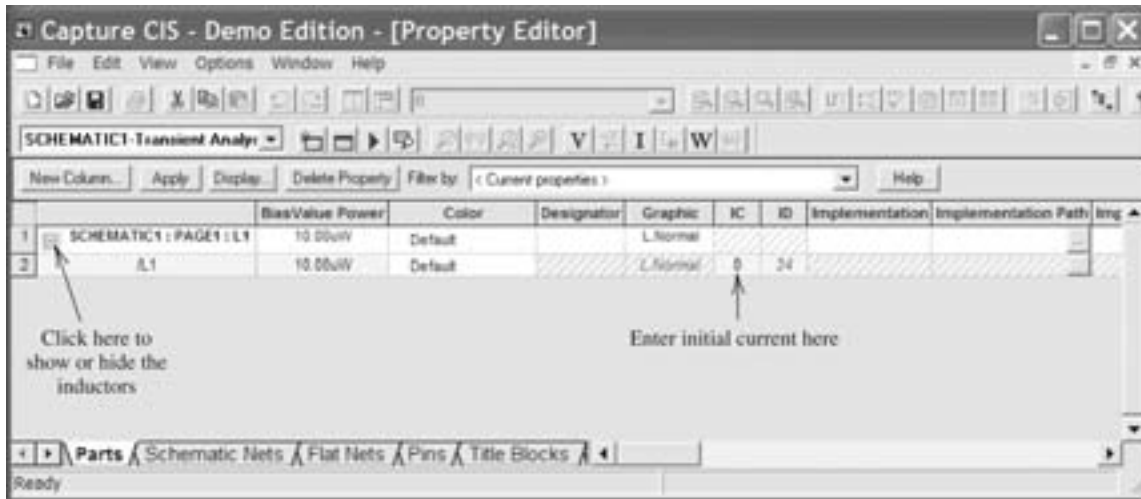

Figure G.16 We use this window to specify the initial current in the inductor.
Next, we specify the initial (i.e., immediately after $t = 0$) current flowing in the inductor. In this circuit, the initial current is zero. Double left-click on the inductor to bring up the window shown in Figure G.16. Enter 0 for the initial condition (IC) as shown. Then, click on **Apply** and close the window.